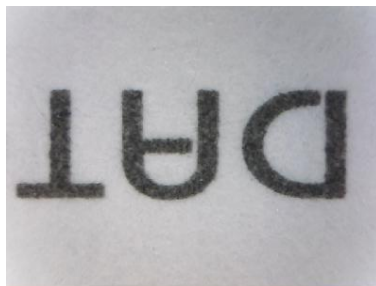

Fig.3-21 Video image becomes horizontal flip
- ⊕ Vertical and horizontal Flip “” : The video image will do horizontal and vertical flip shown in Fig.3-21.